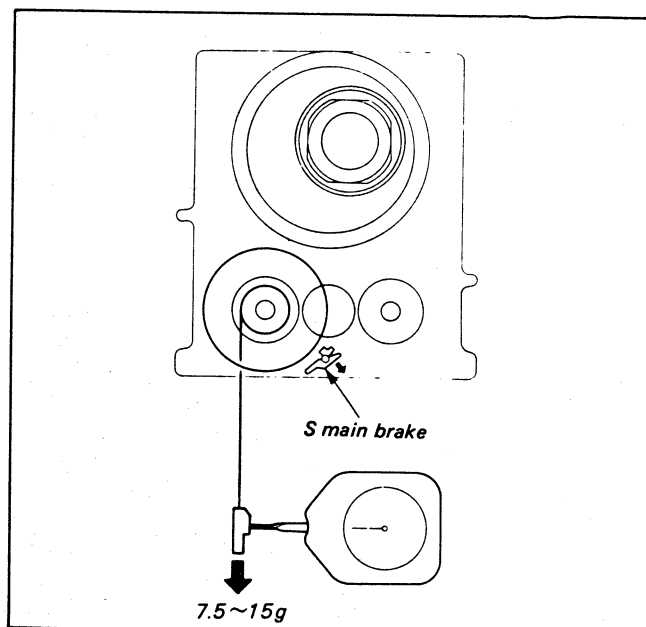

Fig. 3-66.
- 4) Pull the dial tension gauge (Ref No.J-6) in the direction of the arrow and confirm that the specifications are satisfied. (Fig. 3-66)